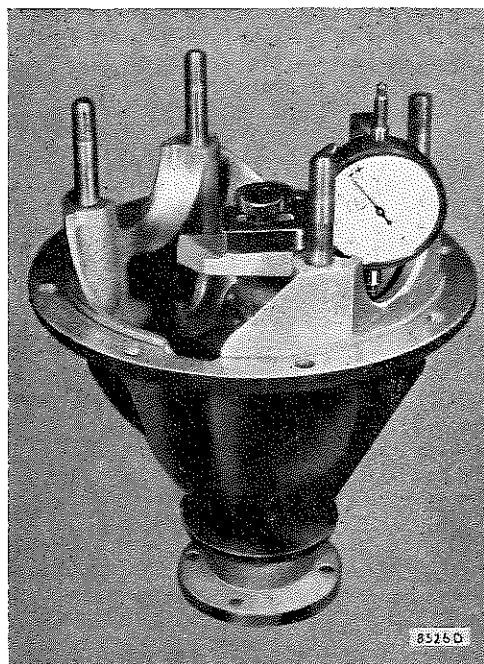

Fig. 6
- vii. Clean the pinion head and place the magnet and dial indicator in position (Fig. 6). Move the indicator arm until the foot of the gauge rests on the centre of the differential bearing bore at one side and tighten the knurled locking screw.